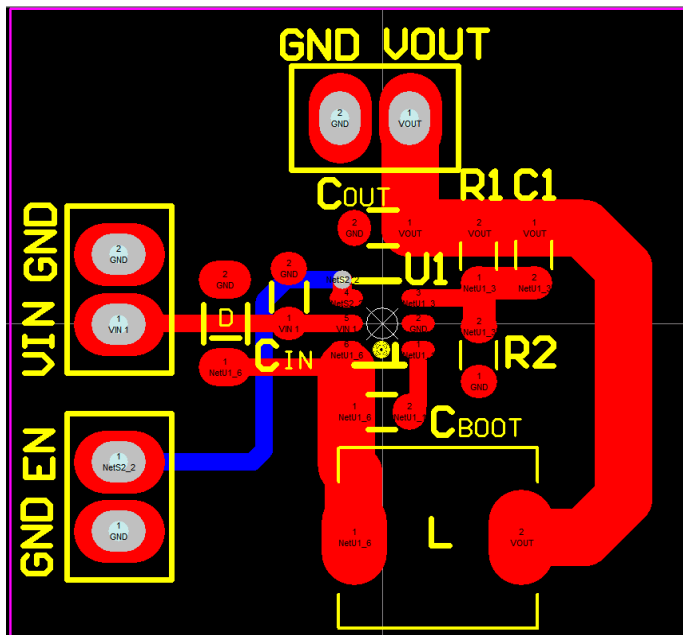

Figure 22. PCB Layout
For proper operation and minimum EMI, care must be taken during printed circuit board layout. Figure 22 shows the recommended component placement with trace, ground plane and via locations. Note that large, switched currents flow in the ATI1934 VIN and SW pins, the catch diode (D) and the input capacitor (C_{IN}). The loop formed by these components should be as small as possible. These components, along with the inductor and output capacitor, should be placed on the same side of the circuit board, and their connections should be made on that layer. Place a local, unbroken ground plane below these components. The SW and BOOST nodes should be as small as possible. Finally, keep the FB nodes small so that the ground traces will shield them from the SW and BOOST nodes. The Exposed Pad on the bottom of the package must be soldered to ground so that the pad acts as a heat sink. To keep thermal resistance low, extend the ground plane as much as possible, and add thermal vias under and near the ATI1934 to additional ground planes within the circuit board and on the bottom side.